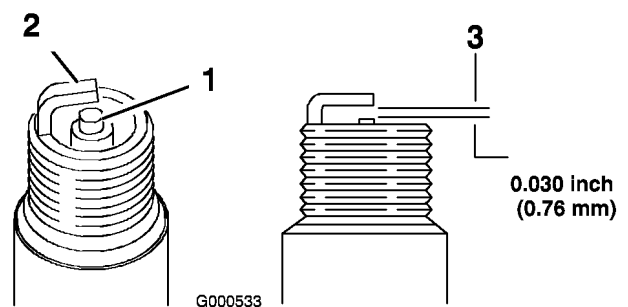

Figure 43
1. Look at the center of the spark plug(s) (Figure 43). If you see light brown or gray on the insulator, the engine is operating properly. A black coating on the insulator usually means the air cleaner is dirty.
2. Check the gap between the center and side electrodes (Figure 43). Bend the side electrode (Figure 43) if the gap is not correct.